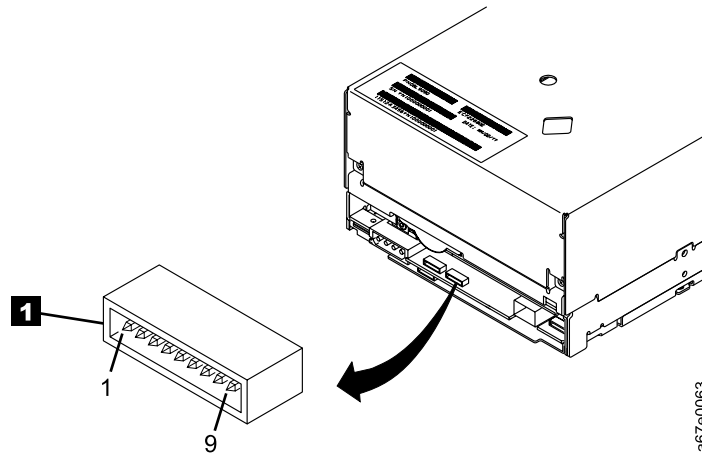

Figure 7. Location of the Fibre Channel (FC) configuration/status connector. The view is from the rear of the drive.
3. Locate the Fibre Channel (FC) configuration/status connector on the drive (see **1** in Figure 7 on page 25).